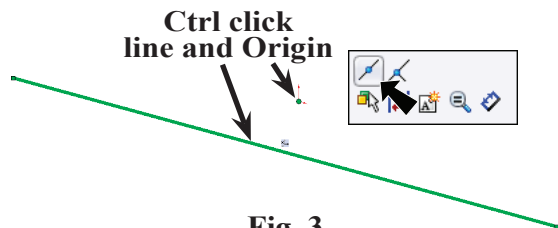

Fig. 3
Step 5. **Ctrl click line and Origin**  to select both. Release Ctrl key and click **Make Midpoint**  on the Content menu, **Fig. 3**.